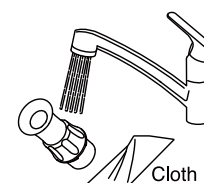

Fig.5-8 Surface cleaning
- Wipe off the surface contamination by a cloth while rinsing the surface by running clean warm at 40 ± 5 degrees. **(Fig.5-8)**